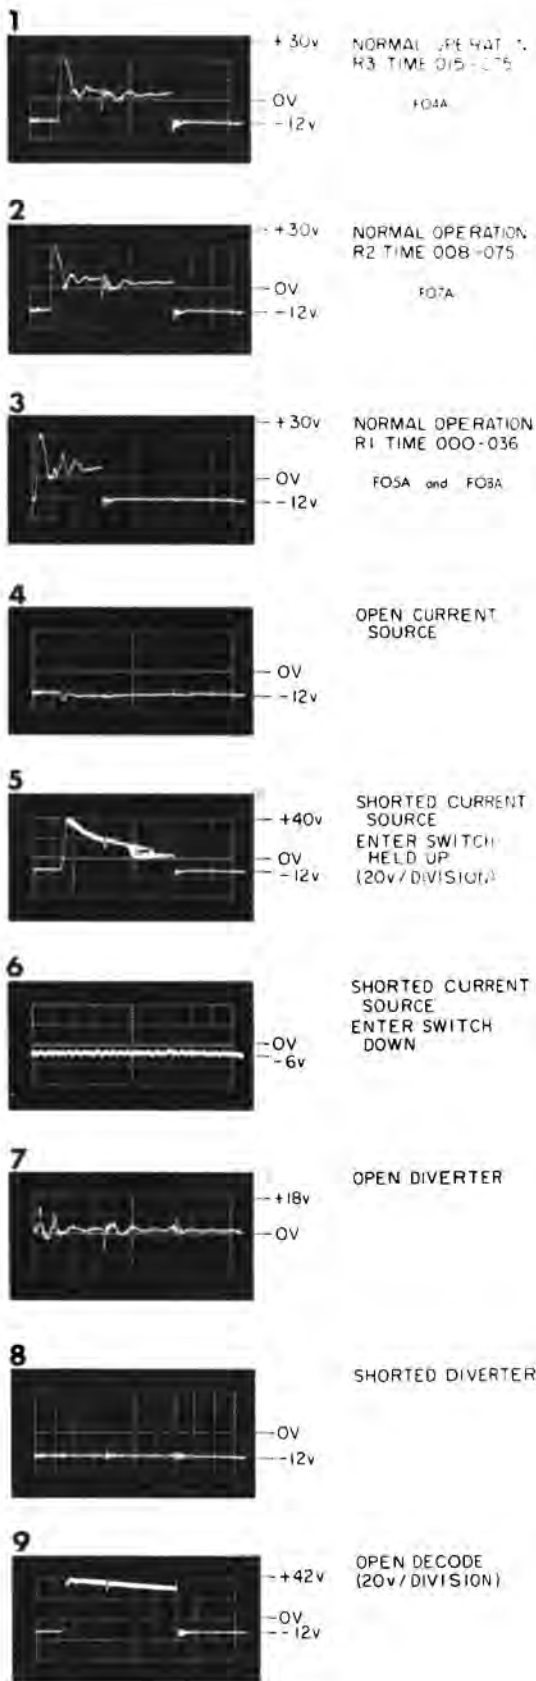

Figure 99. Memory Wave Forms
- Only four points (F04A, F05A, F07A, F08A) need be scoped to determine if the current source, diverter, and decode cards are working correctly. Compare the wave forms (Figure 99) to the following: